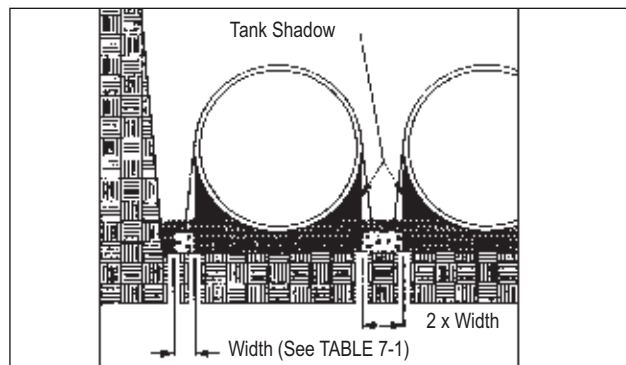

FIGURE 6-3
6.3.1.2. Always provide sufficient clearance to allow the deadmen to be set outside of the tank "shadow." (See FIGURE 6-3.)
7.2.8. Lay the deadmen in the excavation parallel to the tank and outside of the tank "shadow." (See FIGURE 6-3.)